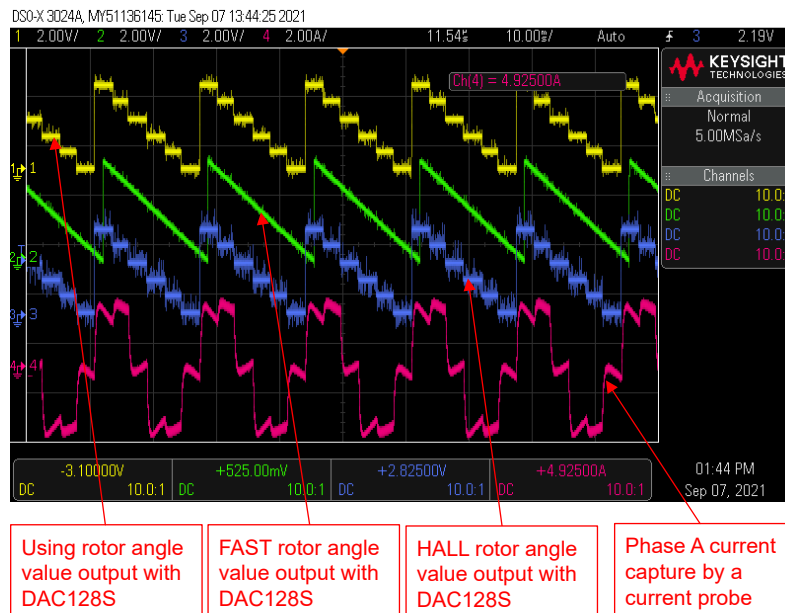

Figure 2-47. Build Level 4: Motor Rotor Angle with FAST and Hall Sensor, Phase Current Waveforms at Reversal Rotation
- The estimated rotor angles from FAST and eSMO are shown in Figure 2-47. The motor is running with FAST at **reversal** rotation by setting `motorVars_M1.speedRef_Hz` to a **negative** value.
Use DAC128S085EVM with an oscilloscope to monitor rotor angle of the motor from the FAST estimator and hall sensor, and a phase current of the motor as shown in Figure 2-47 when the motor is running at reversal rotation by setting `motorVars_M1.speedRef_Hz` to a negative reference value.